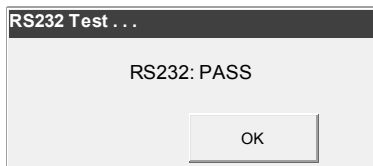

Fig. 7-22 Interface Test Pass
- The instrument will display a **<Pass>** or **<Fail>** message (Fig. 7-22).